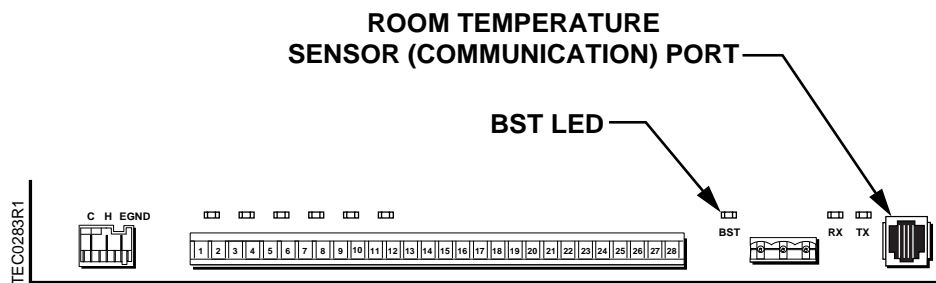

Figure 1. TEC Board Showing Location of BST LED and RTS Port.
3. Verify that the controller is powered up. Check that the BST LED on the controller is flashing (Figure 1). If the BST LED does not flash on/off once per second, see the *APOGEE Automation Service Procedures* on InfoLink for troubleshooting information.
1. Plug the MMI into the Room Temperature Sensor port (Figure 1).